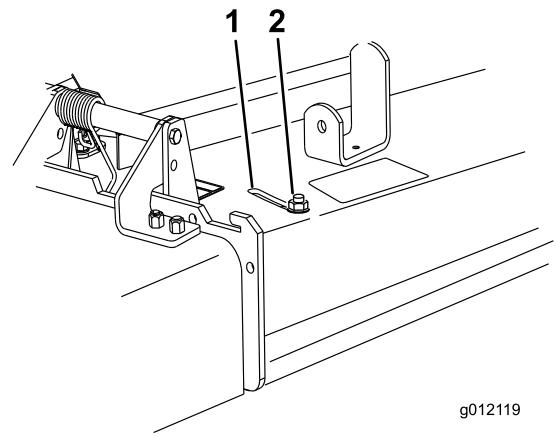

Figure 25
3. To adjust the baffle, loosen the nut (Figure 25).